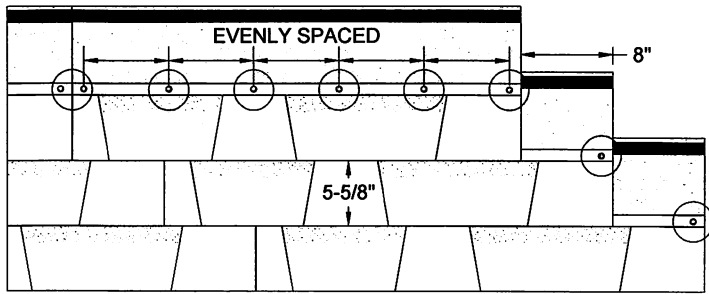

Figure 8 - Laminated, 6-Nail Fastening Pattern
Fasteners should be placed in the nailing area with end fasteners set approximately 1" (25 mm) in from each edge of the shingle and the remaining four (4) fasteners evenly spaced between. (See Figure 8)